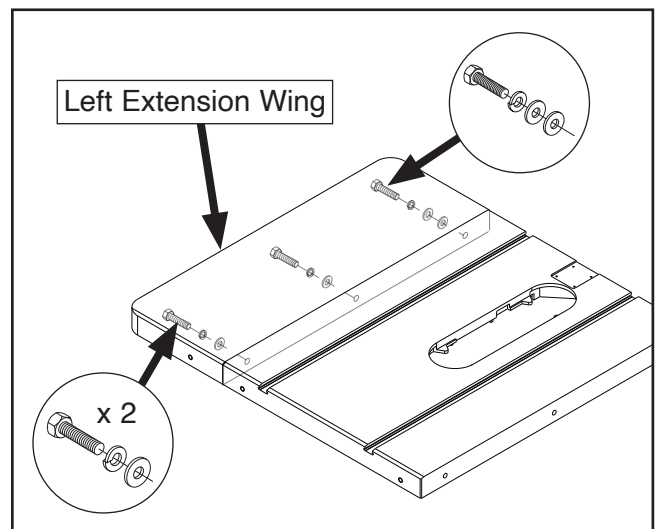

Figure 15. Mounting left extension wing to main table.
3. Have another person hold left extension wing in place, then mount it to main table with (3) $\frac{3}{8}$ "-16 x $1\frac{1}{4}$ " hex bolts, (3) $\frac{3}{8}$ " lock washers, and (4) $\frac{3}{8}$ " flat washers (see **Figure 15**).